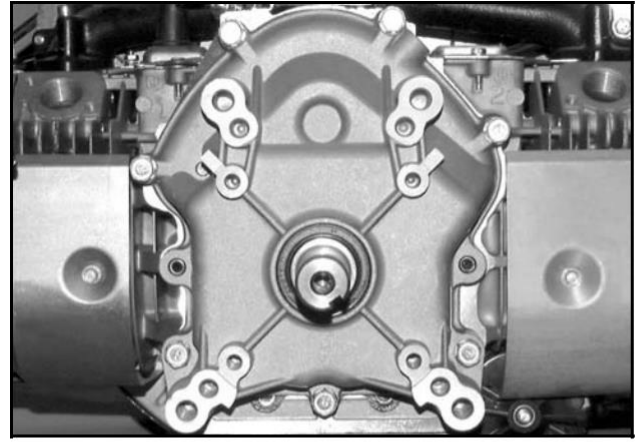

Fig. 10 – Remove Crankcase Cover Or Sump
3. Remove crankcase cover or sump, Fig. 10.